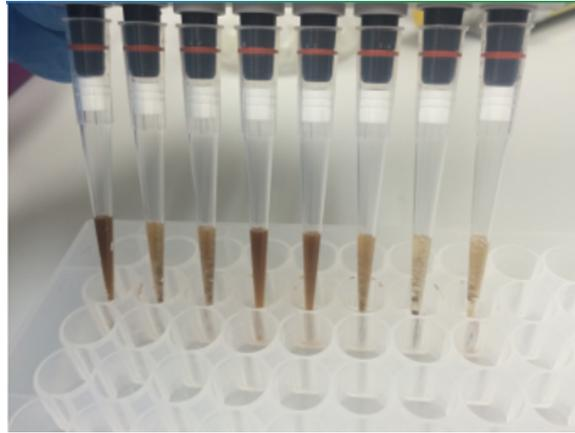

Figure 6: Multichannel pipette tips showing magnetic beads resuspended in elution buffer.
- Note: The re-suspensions may appear varied in their appearance, but the result will be the same. See Figure 6.**